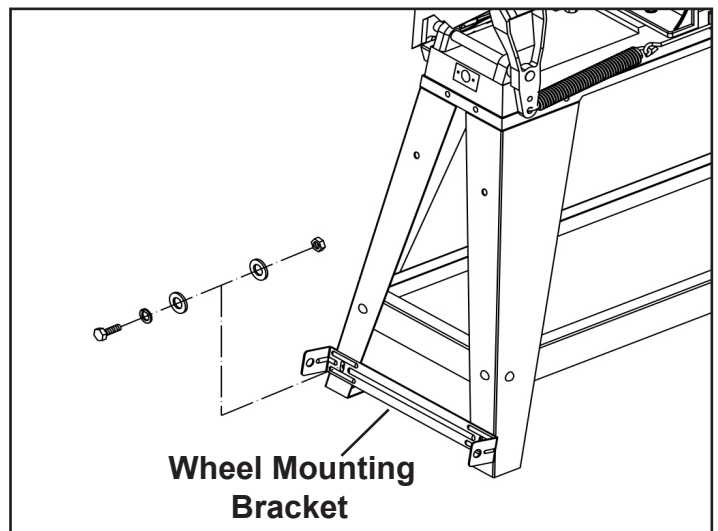

FIGURE 3
5. Use M6 x 12 hex bolts, M6 hex nuts, 6mm lock washers and 6mm flat washers to install the wheel mounting bracket to the legs. Figure 3.